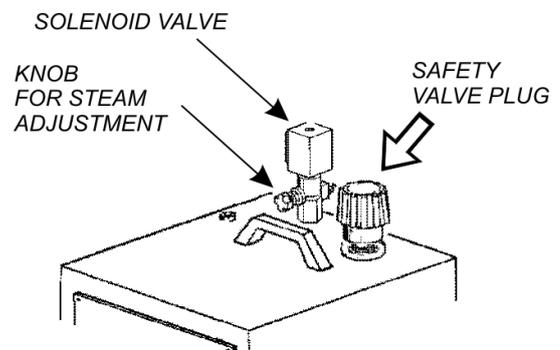

Fig. 3
9. **Never replace the safety valve plug (fig. 3) with other types of plug.**
5. When BARBARA 31 semi-automatic is used with a non-vacuum board, some circular water spots might form. In this case, reduce the steam flux through the knob for steam adjustment (fig. 3). It is recommended to combine the machine with a vacuum and heated ironing board.
3. rotate the valve plug (fig. 3) of 360° and wait for the steam to go out completely. Unscrew the valve plug with care and wait 5/10 minutes;